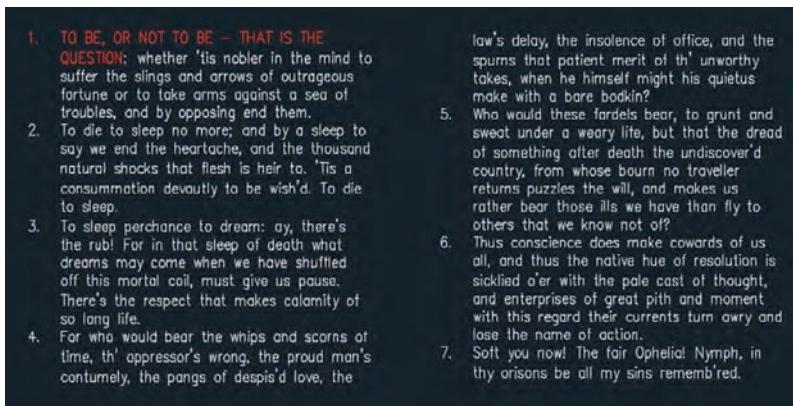

**FIGURE 10.14** Moving the bottom grip up to create two columns
- Click once on the numbered Hamlet text to select it and reveal its grips. Toggle off Object Snap. Click the Column Height (bottom) grip, move it upward, and click again, automatically creating two columns, as shown in Figure 10.14.